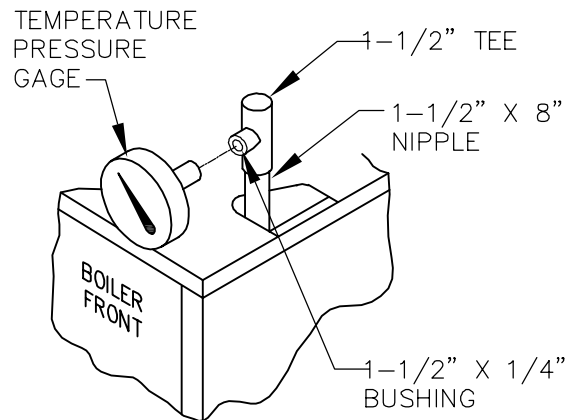

Figure 3.1: Temperature-Pressure Gage Installation
2. Install temperature-pressure gage with tee in supply tapping. Nipple, tee, bushing and gage are located in trim carton. See Figure 3.1.